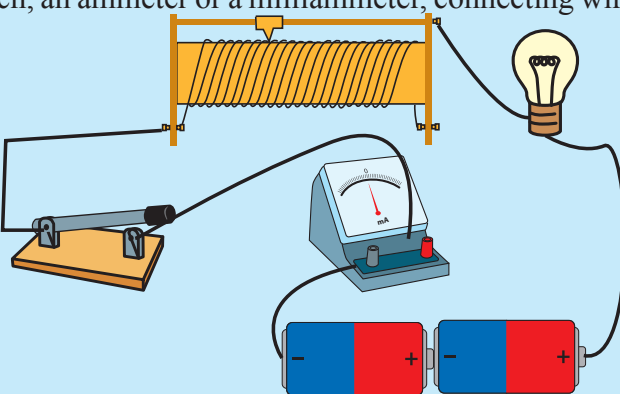

Figure 10.26 ▲
- Connect the bulb, the rheostat, the switch, the milliammeter and the cells to construct the circuit as shown in Figure 10.26.